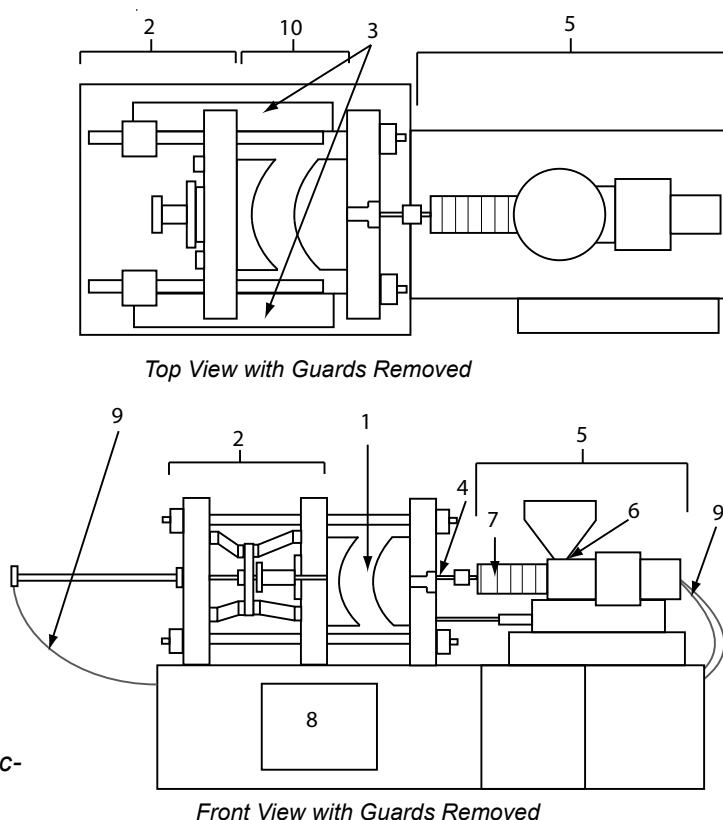

Figure 3-1: Injection molding machine (HIMM) with horizontal clamping unit and horizontal injection unit, shown without guards for illustration clarity.
Mold Area Area between the platens. See Figure 3-1 item 1	Mechanical Hazards Crushing and/or shearing and/or impact hazards caused by: <ul style="list-style-type: none"> • Movement of the platen • Movements of the injection barrel(s) into the mold area • Movements of cores and ejectors and their drive mechanisms. • Tie bar motion. Thermal Hazards <ul style="list-style-type: none"> • Burns and/or scalds due to operating temperature of: • The mold heating elements of the molds. • Plasticized material released from/through the mold.
Clamping Mechanism Area See Figure 3-1 area 2	Mechanical Hazards Crushing and/or shearing and/or impact hazards caused by: <ul style="list-style-type: none"> • Movement of the platen. • Movement of the drive mechanism of the platen. • Movement of the core and ejector drive mechanism.
Movement of drive mechanisms outside the mold area and outside the clamping mechanism area. See Figure 3-1 area 3	Mechanical Hazards Mechanical hazards of crushing, shearing and/or impact caused by the movements of: <ul style="list-style-type: none"> • Core and ejector drive mechanisms.
Nozzle area The nozzle area is the area between the barrel and the sprue bushing. See Figure 3-1 area 4	Mechanical Hazards Crushing, shearing hazards, and/or impact hazards caused by: <ul style="list-style-type: none"> • Forward movement of the plasticizing and/or injection unit including nozzle. • Movements of parts of the power operated nozzle shutoff and their drives. • Over pressurization in the nozzle. Thermal Hazards Burns and or scalds due to operating temperature of: <ul style="list-style-type: none"> • The nozzle. • Plasticized material discharging from the nozzle.
Plasticizing and/or injection unit area Area from the adaptor/barrelhead/end cap to the extruder motor above the sled including the carriage cylinders. See Figure 3-1 area 5	Mechanical Hazards Crushing, shearing and/or drawn into hazards caused by: <ul style="list-style-type: none"> • Unintentional gravity movements e.g. for machines with plasticizing and/or injection unit positioned above the mold area. • The movements of the screw and/or the injection plunger in the cylinder accessible through the feed opening. • Movement of the carriage unit. Thermal Hazards Burns and or scalds due to operating temperature of: <ul style="list-style-type: none"> • The plasticizing and/or injection unit. • The heating elements e.g. heater bands. • The plasticized material and/or vapors discharging from the vent opening, feed throat or hopper. Mechanical and/or Thermal Hazard Hazards due to reduction in mechanical strength of the plasticizing and/or injection cylinder due to overheating.
Feed Opening See Figure 3-1 area 6	Pinching and crushing between injection screw movement and housing.
Area of the heater bands of the plasticizing and/or injection cylinders See Figure 3-1 area 7	Burns and or scalds due to operating temperature of: <ul style="list-style-type: none"> • The plasticizing and/or injection unit. • The heating elements e.g. heater bands. • The plasticized material and/or vapors discharging from the vent opening, feed throat or hopper.
Parts Discharge Area See Figure 3-1 area 8	<p>Mechanical Hazards Accessible Through the Discharge Area Crushing, shearing and/or impact hazards caused by:</p> <ul style="list-style-type: none"> • Closing movement of the platen Movements of cores and ejectors and their drive mechanisms. • <p>Thermal Hazards Accessible Through the Discharge Area Burns and or scalds due to operating temperature of:</p> <ul style="list-style-type: none"> • The mold. • Heating elements of the mold. • Plasticized material released from/through the mold.
Hoses See Figure 3-1 area 9	<ul style="list-style-type: none"> • Whipping action caused by hose assembly failure. • Possible release of fluid under pressure that can cause injury. • Thermal hazards associated with hot fluid.
Area Inside the Guards and Outside the Mold Area See Figure 3-1 area 10	Crushing and/or shearing and/or impact hazards caused by: <ul style="list-style-type: none"> • Movement of the platen. • Movement of the drive mechanism of the platen. • Movement of the core and ejector drive mechanism. • Clamp opening movement.